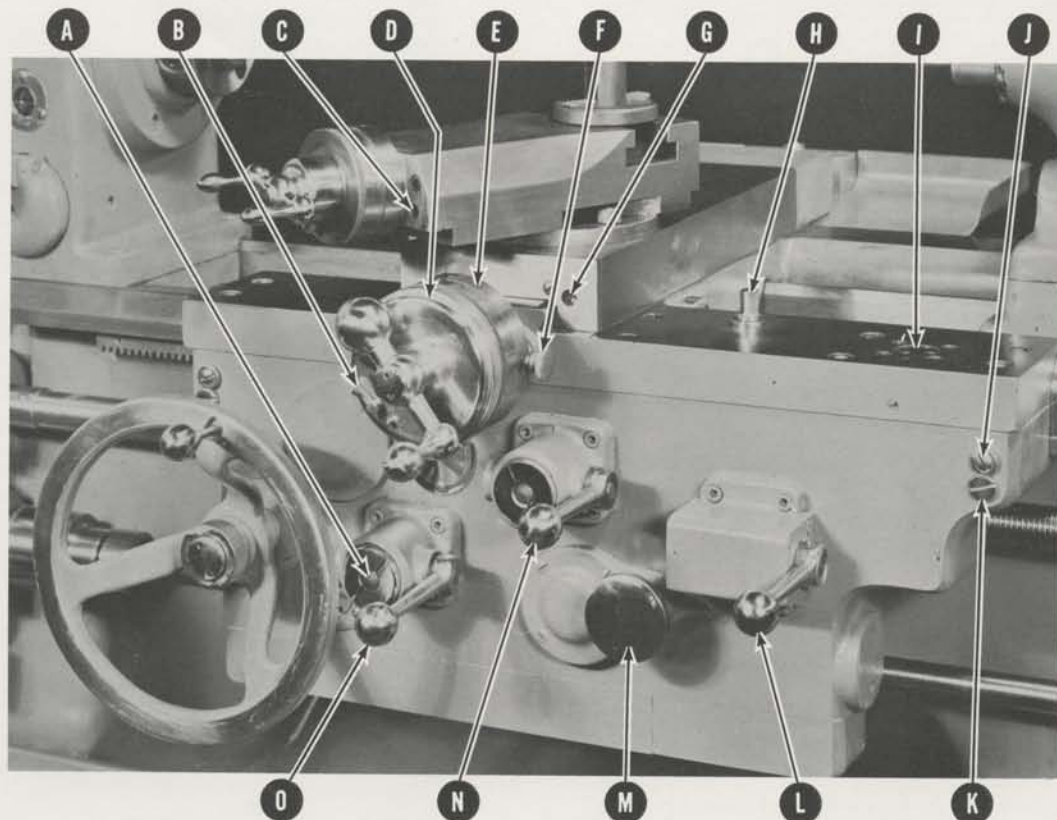

FIGURE 7. Apron and Carriage
Figure 7 shows the operating controls of the apron and carriage.
<p>2. Apron Frictions</p>	<p>Clockwise rotation of nut (A) Figure 7, Page 6, tightens the friction. It should be adjusted so that the lever becomes tight at about a <math>45^\circ</math> angle down. The cross feed friction is adjusted in the same manner.</p>
<p>3. Cross slide and Compound Slide Gibs</p>	<p>Screws (G) and (C) Figure 7 are for adjustment of the cross slide and compound gibs. There is a similar screw adjustment at the rear of each slide.</p> <p>The gibs should be adjusted to give a slight drag to the slides. If the adjusting screws are drawn too tightly against each end of the gib, they may create a bad bearing surface by throwing the gibs out of alignment.</p>
<p>5. Anti-Friction Carriage Gibs</p>	<p>Loosen lock screw (J) Figure 7 and turn eccentric stud (K) until anti-friction bearing just rolls as carriage is moved along bedways. Do not adjust too tight. Tighten lockscrew.</p>